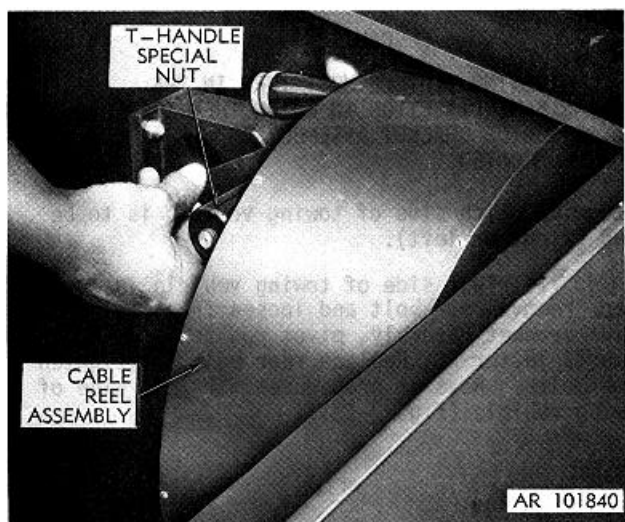

**Figure 2-6. Loosening locknut and cap screw which secure tow cable release.**
d. Use adjustable wrench to loosen locknut on socket-head cap screw which secures tow cable release in its mounting bracket (fig. 2-6). Loosen the cap screw (pliers may be needed) and remove tow cable release (with attached tow ring) from its stowed position on floor of compartment. Put aside until required for use.